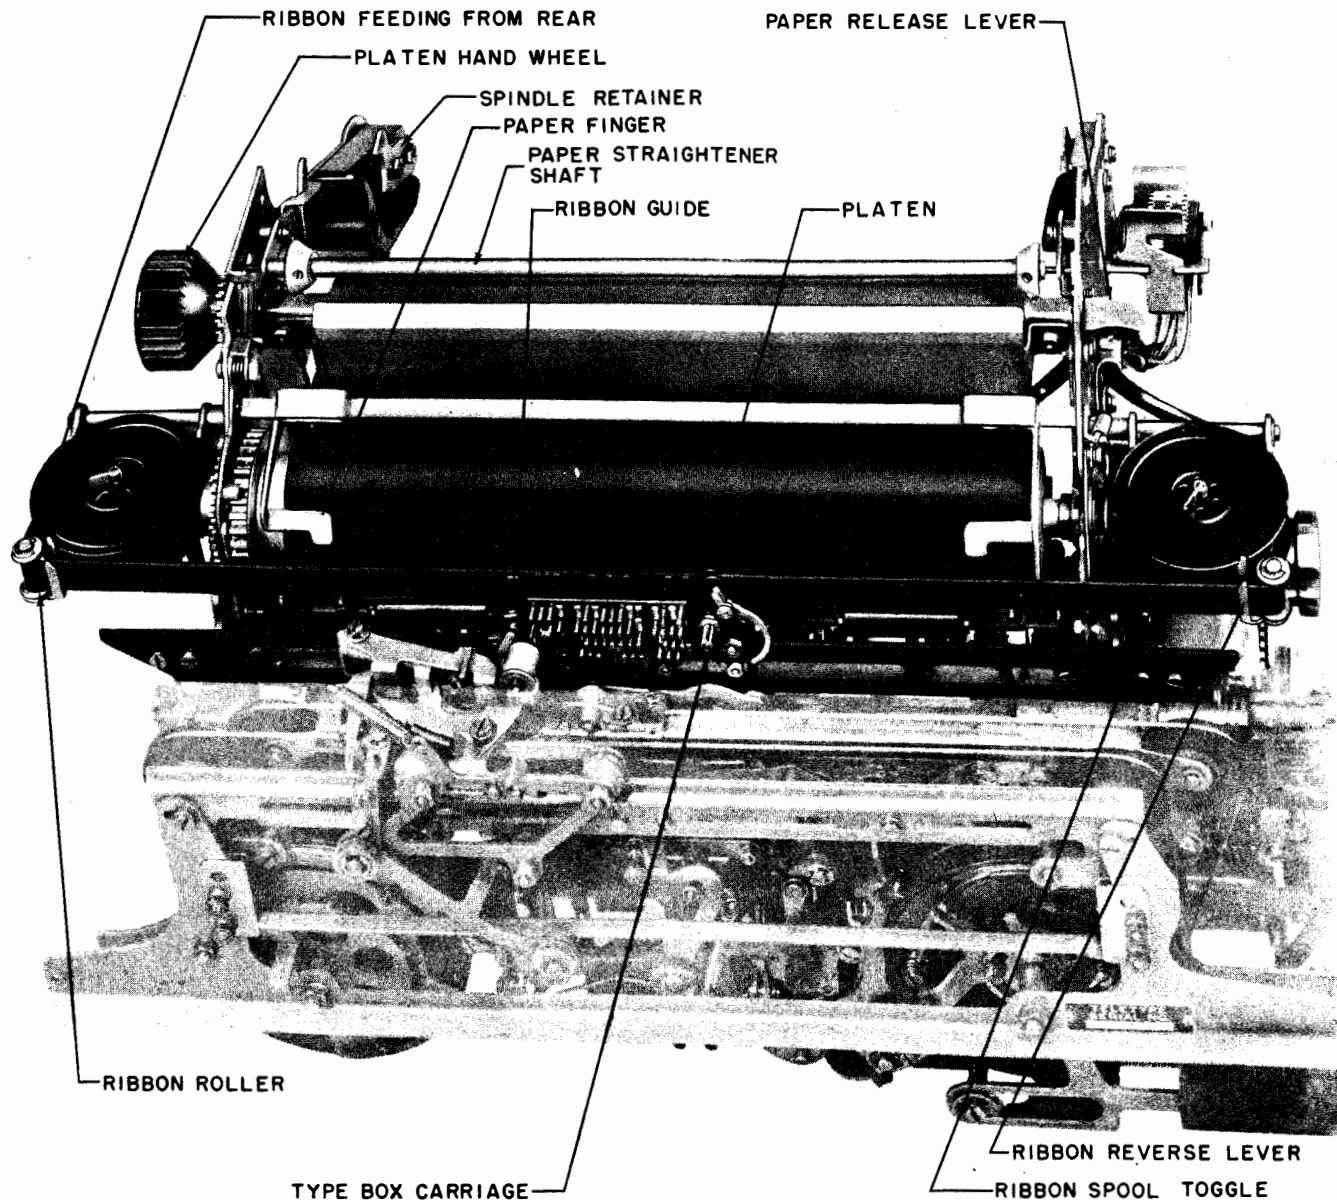

Figure 4-2. Automatic Typewriter MX-1115A/UG, Top View
c. LINE FEED.—This key, when depressed, causes the paper to feed upward one or two spaces depending upon the position of a single-double line feed lever located on the Automatic Typer (figure 4-2).
(See figures 4-2, 4-4 and 4-5.)
a. To replenish the supply of paper, open the dome of the Cabinet, move the paper release lever (figure 4-2) on the Automatic Typer toward the rear, slide one of the spindle retainers toward the rear and remove the paper spindle. Insert the spindle in a fresh roll of paper and remount it so that the paper unwinds from underneath. Feed the paper over the paper straightener shaft and fold the end of the paper backward to square it off. With the paper release lever toward the rear, start the paper feeding around the platen and then restore the release lever to its forward position. Depress the platen handwheel and continue to feed the paper upward. Do not disturb the ribbon. Make certain that the paper passes under the paper fingers which may be raised temporarily to facilitate the operation. It may be necessary to operate the release lever momentarily when finally straightening the paper.
b. To replace the ribbon, open the hinged door in the dome, raise the ribbon spool toggles (figure 4-2) to the vertical position and remove both spools. Engage the hook that is on the end of the new ribbon in the hub of the empty spool. Wind a few turns of the ribbon onto the empty spool to make sure that the reversing eyelet has been wound upon the spool. Place the spools on the ribbon spool shafts in such a manner that the ribbon feeds from the rear of each spool without twisting. Turn each spool shaft slightly until the driving pins on the spool shafts engage the holes in the spools. Thread the ribbon forward around both ribbon rollers, through the slots in the ribbon reverse levers, and through the ribbon guide on the type box carriage. Make certain that the ribbon remains in the guide slots